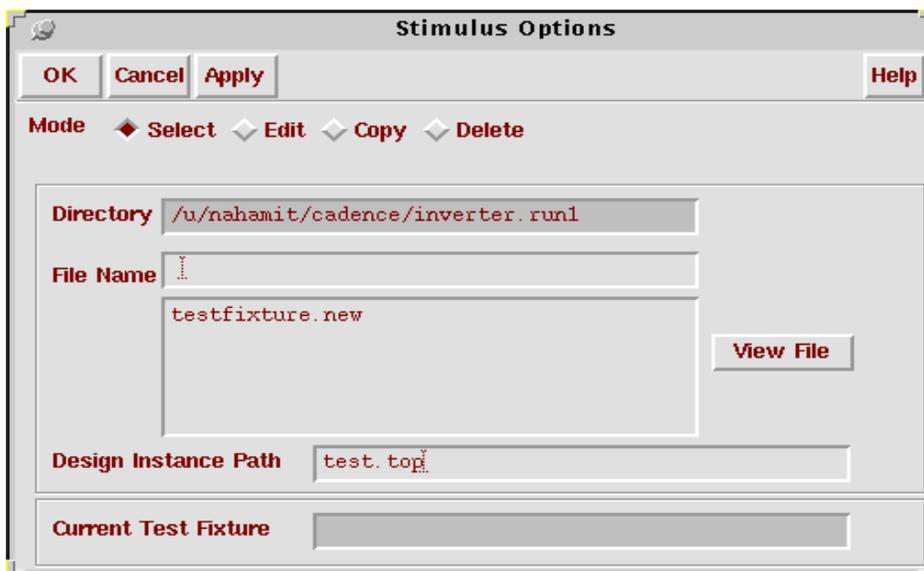

Fig 10: Simulation Options
- j. The “Simulation Options” window opens as shown in Fig 10.
- k. In Fig 10 select textfixture.new and click **OK**.